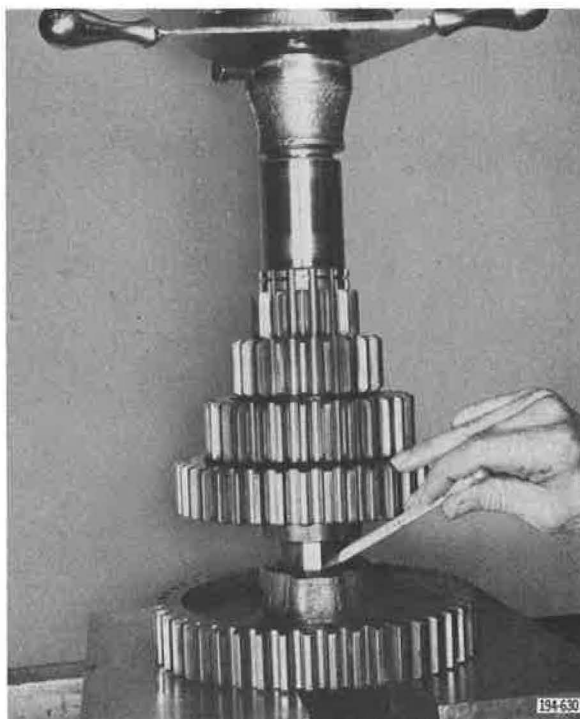

Figure 5-457. Pressing Gears onto Countershaft
4. Repeat procedure with remaining gears. Fourth speed gear hub to be toward front (away from third speed gear). Main drive gear (fifth speed gear) hub to be toward rear (next to fourth speed gear hub). See Figure 5-457.